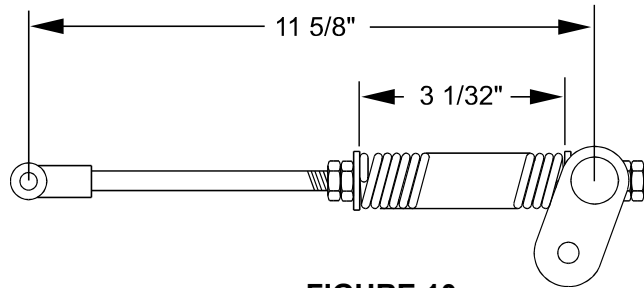

FIGURE 10
- c) Check the compression spring length and adjust to 3 1/32" as required (See Figure 10).